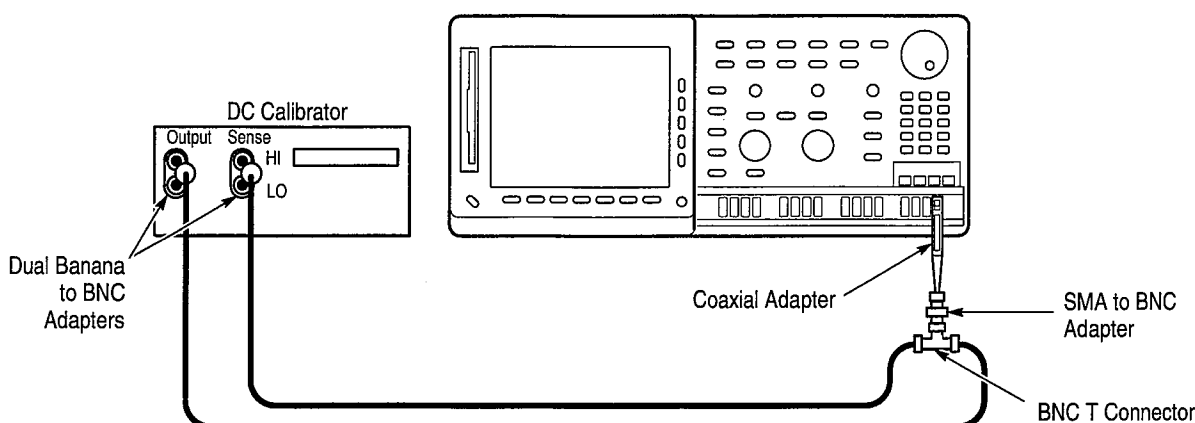

Figure 1–6: Test Hookup for DC Gain and Accuracy Tests
- c. Read the measurement results at the absolute (@:) cursor readout (see Figure 1–5).
- b. Connect the output of the DC calibration generator through a dual-banana connector followed by a 50  $\Omega$  precision coaxial cable to one side of a BNC T connector. See Figure 1–6.
- c. Connect the Sense output of the generator through a second dual-banana connector followed by a 50  $\Omega$  precision coaxial cable to the other side of the BNC T connector. Now connect the BNC T connector to channel 1 through the SMA to BNC adapter and a coaxial adapter. See Figure 1–6.